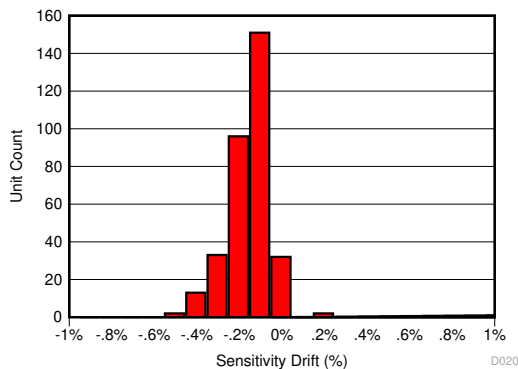
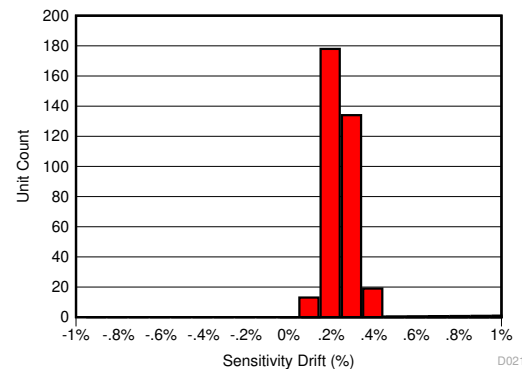
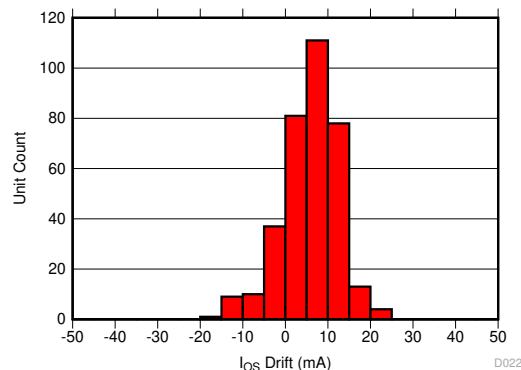

Figure 9-1. Sensitivity Error After 130°C, 85% RH HAST
Figure 9-2. Sensitivity Error Drift After AEC-Q100 High Temperature Operating Life Stress Test
Figure 9-3. Input-Referred Offset Drift After AEC-Q100 High Temperature Operating Life Stress Test
The same compensation techniques utilized in the TMCS1108-Q1 to reduce temperature drift also greatly reduce lifetime drift due to aging, stress, and environmental conditions. Typical magnetic sensors suffer from up to 2% to 3% of sensitivity drift due to aging at high operating temperatures. The TMCS1108-Q1 has greatly improved lifetime drift, as defined in the Electrical Characteristics table for total sensitivity error measured after the worst-case stress test during a three lot AEC-Q100 qualification. All other stress tests prescribed by an AEC-Q100 qualification caused lower than the specified sensitivity error, and were within the bounds specified within the Electrical Characteristics table. Figure 9-1 shows the total sensitivity error after the worst case stress test, a Highly Accelerated Stress Test (HAST) at 130°C and 85% relative humidity (RH), while Figure 9-2 and Figure 9-3 show the sensitivity and offset error drift after a 1000 hour, 125°C high temperature operating life stress test as specified by AEC-Q100. This test mimics typical device lifetime operation, and shows the likely device performance variation due to aging is vastly improved compared to typical magnetic sensors.